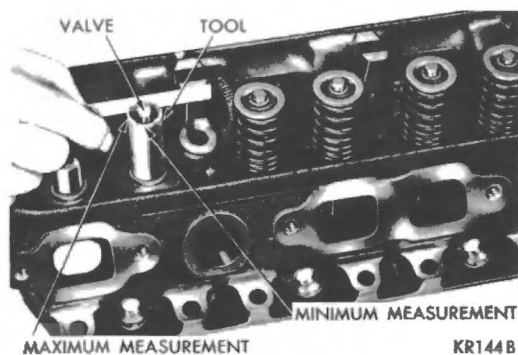

Fig. 7 Measuring Valve Stem Length (Typical)
(2) Measure the concentricity of the valve seat using a dial indicator. The total runout should not exceed .003 inch (total indicator reading).
(3) When the seat is properly positioned the width of the intake seats should be  $1/16$  to  $3/32$  inch. The width of the exhaust seats should be  $3/64$  to  $1/16$  inch.
(4) When the valves and seats are re-ground, the position of the valve in the cylinder head is changed, the valve stems will extend further out of the cylinder heads. This increased dimension will decrease valve spring compression.
(5) The design of the valve mechanism includes a safety factor to allow for a limited amount of wear, and the refacing of valves and seats.
(6) To ensure that the limits have not been exceeded, the dimension from valve spring seat in head to valve tip should be measured with gauge Tool C-3968, shown in Figure 7.